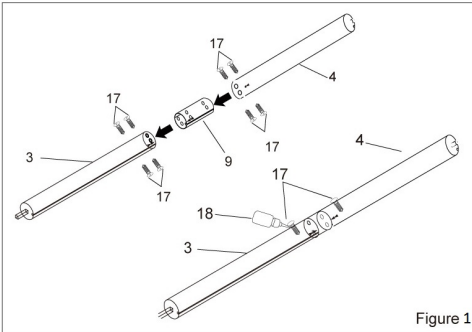

Figure 1
**Figure 1** shows the side view of a properly installed awning where the awning and the drop heights are ideal. The correct drop angle is usually already preset by the factory; however some minor adjustments will be needed after the installation.